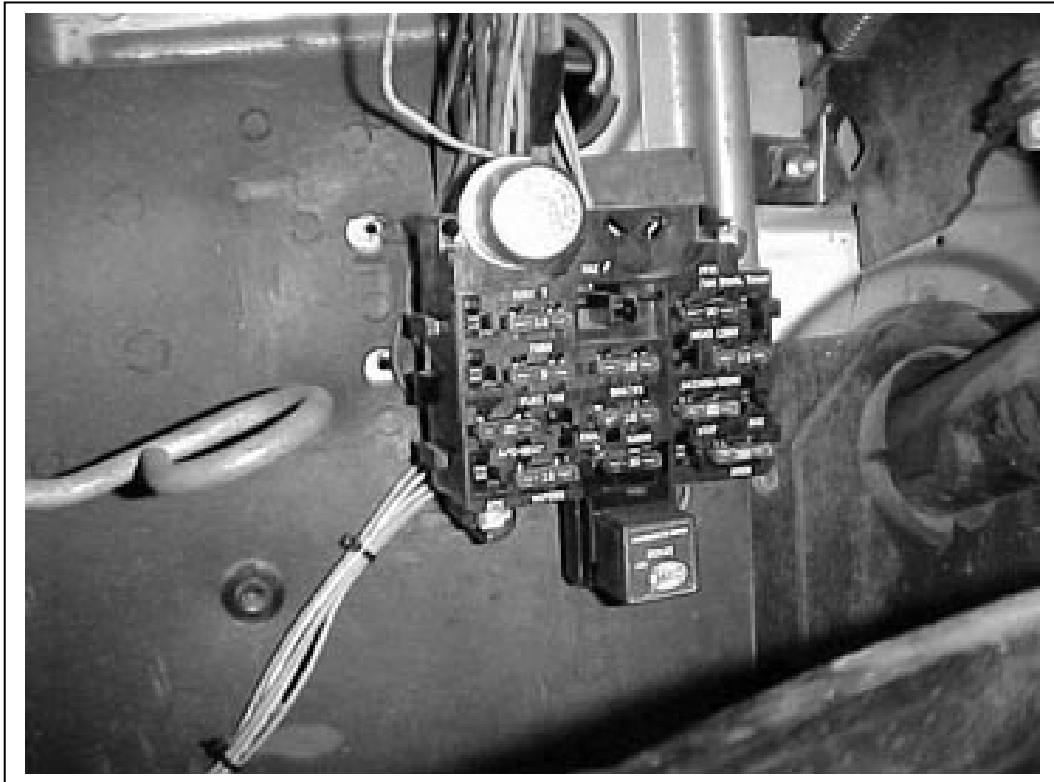

Figure 6.1 Fuse Block - mounted
- 6.1.1 Position the fuse block in its original mounting area. Making sure that you are clear of the vent handle. **See Figure 6.1.** See **Illustration 1**, template for proper drilling of mounting holes.